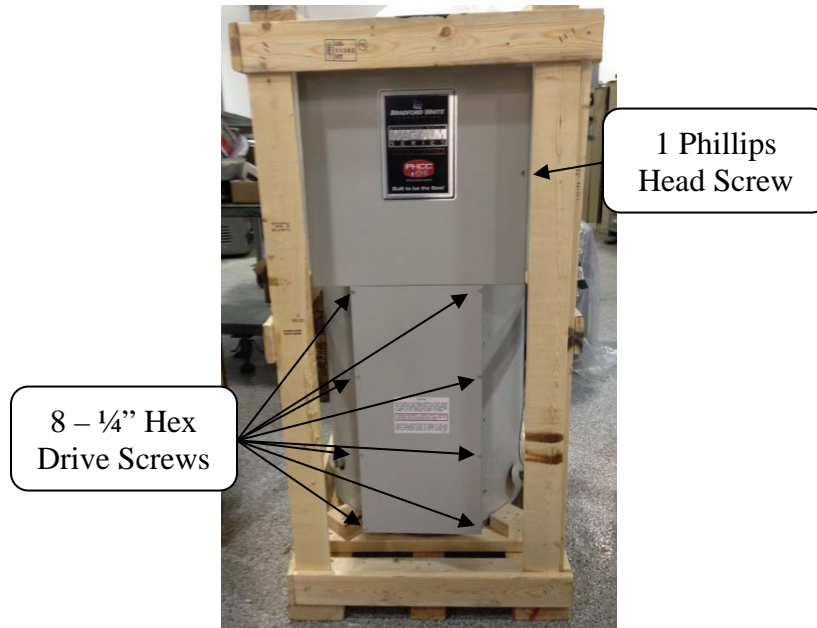

Figure 4. Control Box Screws
2. Using a Phillips head screwdriver remove the 1 screw from the front right of the control cabinet door and set aside (see Figure 4). Open the control cabinet door to gain access to the electrical components. Remove the 8 – ¼" hex drive screws from the element cabinet cover and set aside the screws and cover (see Figure 4).